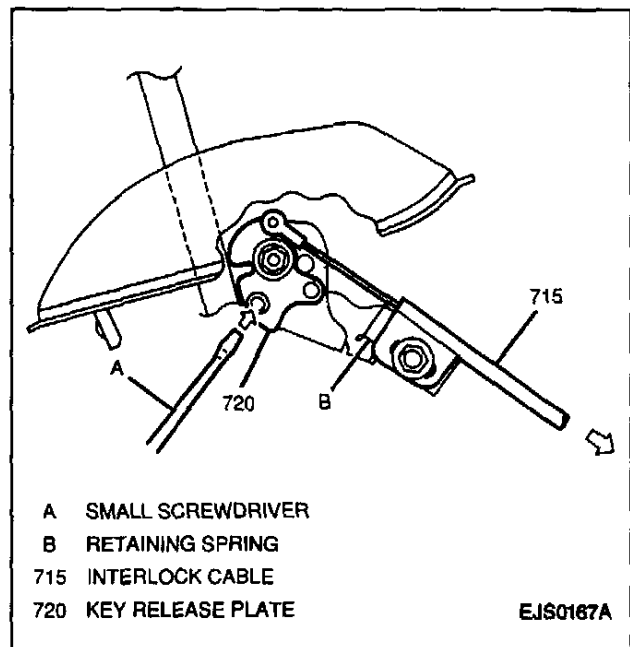

Figure 17—Adjusting Interlock Cable
- Rotate key release plate and insert a small screwdriver through the key release plate to hold it in position (Figure 17).
- Allow the retaining spring to position the interlock cable bracket (Figure 17).